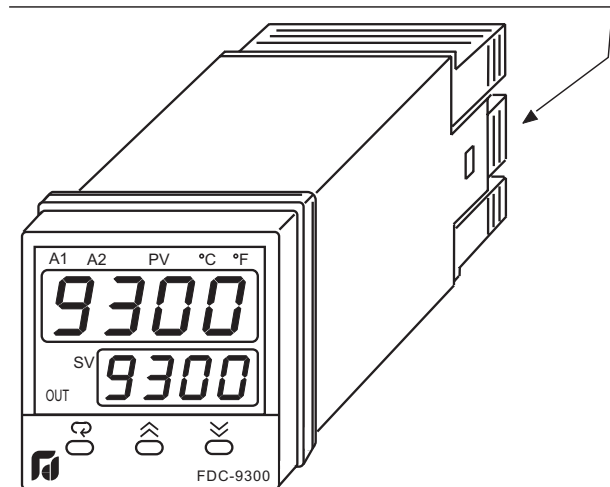

Figure 5.1
- (3) If the points listed on the above chart have been checked and the controller does not function properly, it is suggested that the instrument be returned to the factory for inspection. Do not attempt to make repairs without qualified engineer and proper technical information . It may create costly damage. Also , it is advisable to use adequate packing materials to prevent damage in transportation.
- (4) Dismantle the controller according to Figure 5.1 . Refer to Table 5.2 for some probable causes and actions.
- ① **Press both sides of the latch located on rear terminal block. Hold tightly and remove the terminal block from the housing.**
- ② **Expand the rear edge of the housing by using a tool. Pull out the PCB from the housing.**